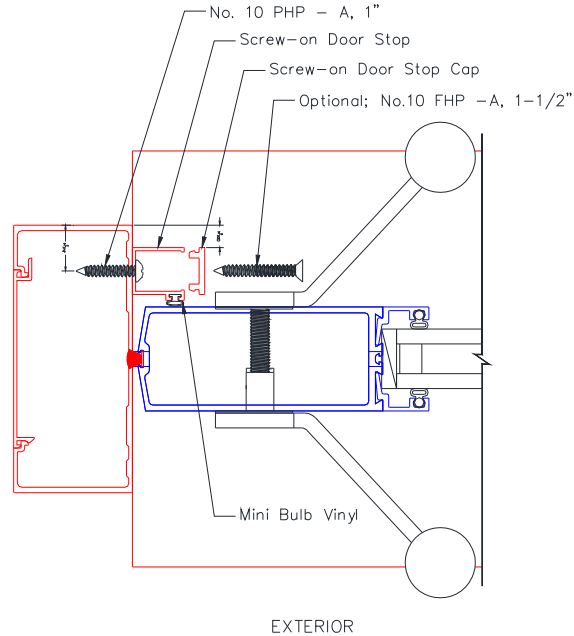

Figure 10:
- Optional: using a #25 drill bit and 82° countersink, drill and then countersink for 3 No. 10 flat head Phillips with “A” point, 1-1/2” long, (SS clear (ID# 20295) or black (ID# 20296)) screws to secure cap to the screw-on door stop (Figure 10).